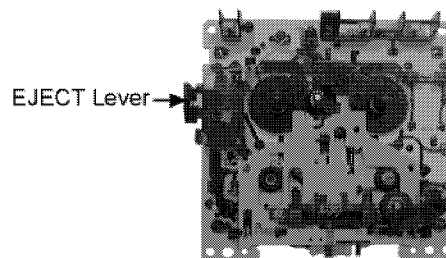

Fig. 6
1. Pull up the EJECT lever using a rubber band. (Cf. Fig. 6)